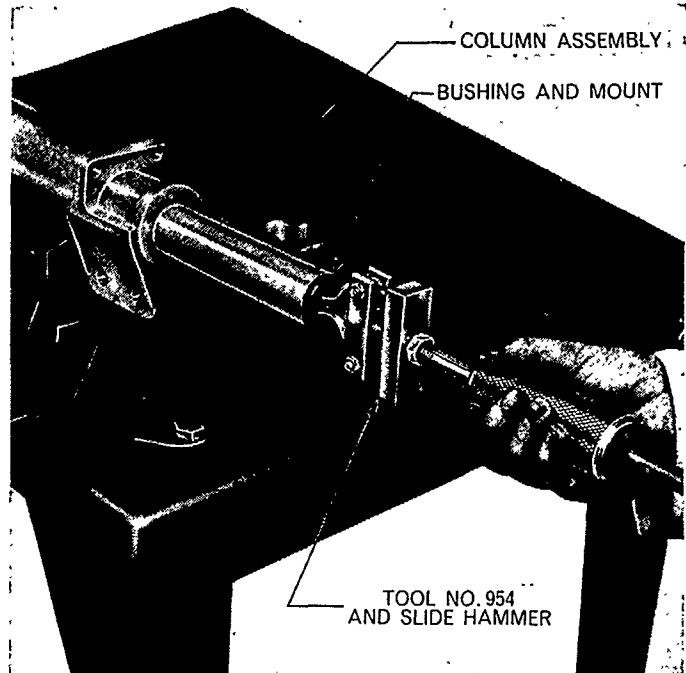

Figure 41
8. Examine the column housing upper bushing for wear or scoring and remove complete with rubber mount using 954 and slide hammer, Figure 41.